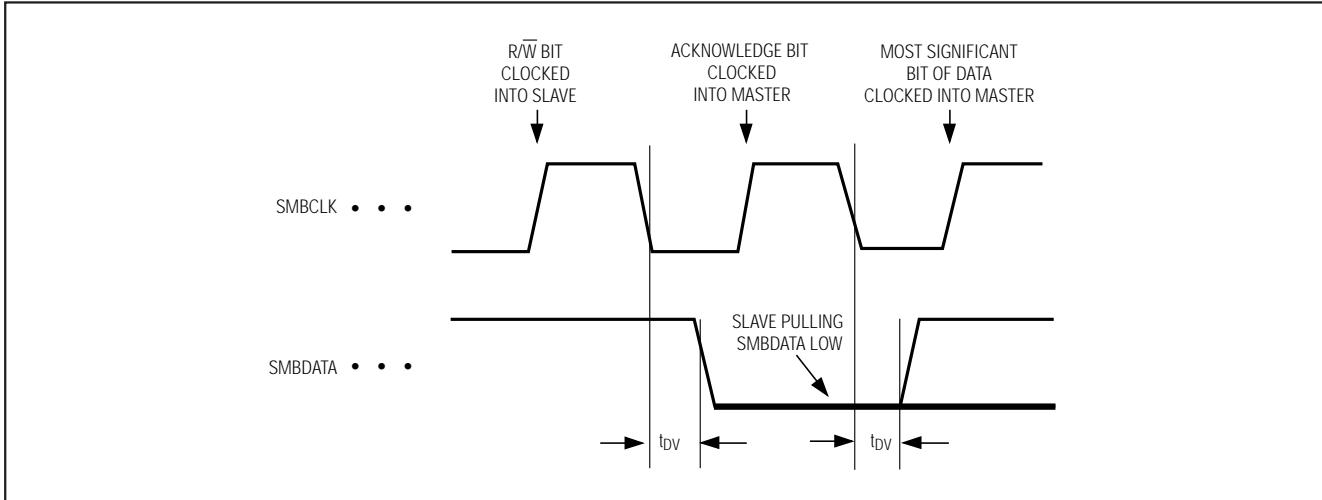

Figure 3. SMB Serial-Interface Timing—Acknowledge and Data Valid
**Note 6:** Refer to Figure 3 for the acknowledge timing diagram and  $t_{DV}$  parameter definition.